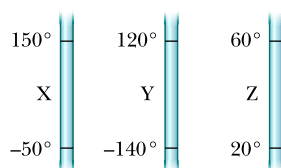

Figure 18.1 Question 2.
**2** Figure 18.1 shows three linear temperature scales, with the freezing and boiling points of water indicated. Rank the three scales according to the size of one degree on them, greatest first.